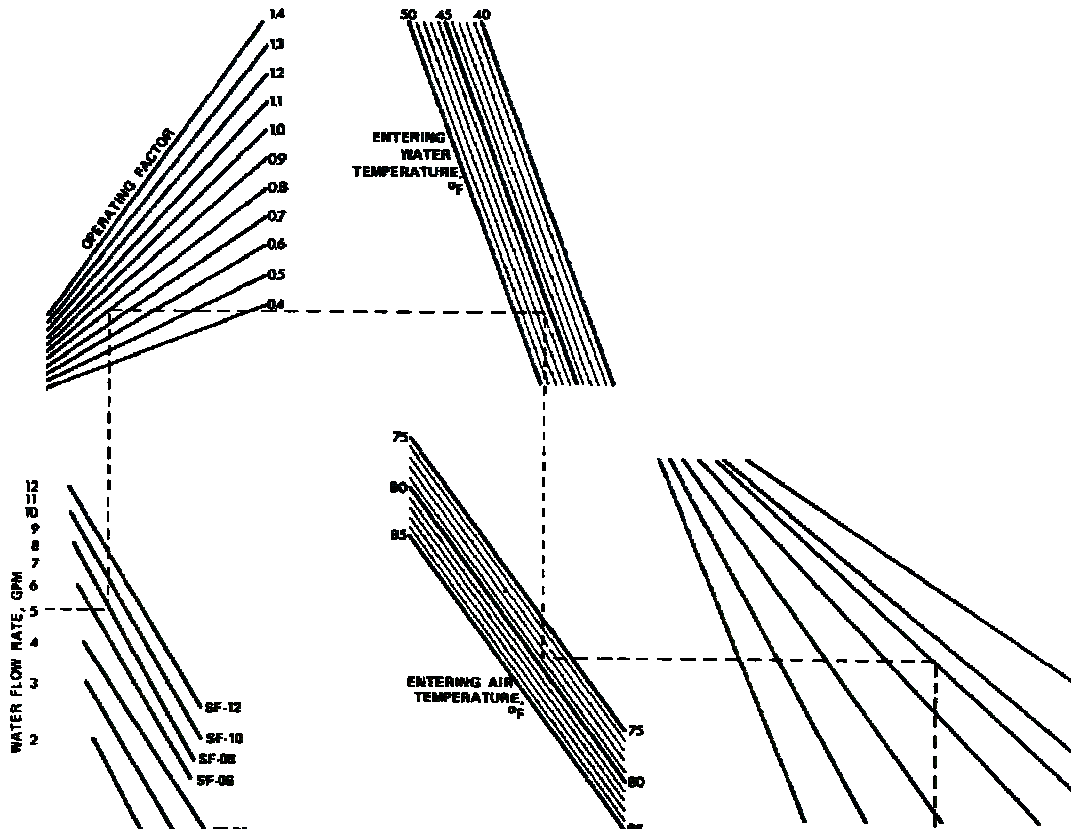

FIGURE 1. WET TARING SENSIBLE COOLING CAPACITY
The water flow rate is determined from FIGURE 1, which gives the total cooling capacity as a function of water flow rate (GPM) with the operating factor (OF) and the unit size as parameters.
Note 1: If it is required to operate the fan-coil unit at medium or low fan speed, the capacity multiplying factor, (FIGURE 1) for the fan speed should be applied before the above procedure is followed. Namely, the given total cooling capacity should be divided by the capacity multiplying factor, resulting in a higher initial cooling capacity. Then, using the corrected total cooling capacity follow the procedure outlined above.
Note 1: If sensible cooling capacity, with medium or low fan speed is desired, apply the capacity multiplying factor for fan speed (FIGURE 1).
Note: If it is required to operate the fan-coil unit at medium or low fan speed, the capacity multiplying factor for the fan speed, as given in FIGURE 1, should be applied before the above procedure is followed. Namely, the given heating capacity should be divided by the capacity multiplying factor, resulting in a higher initial heating capacity. Using the corrected heating capacity, the procedure stated above should be followed.